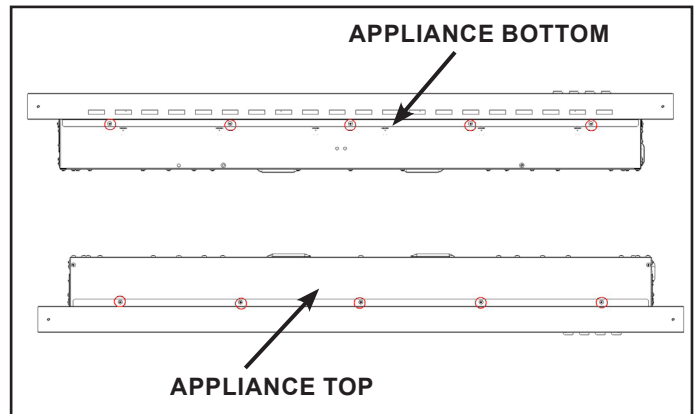

Figure 10 Fasten Top and Bottom Trim Skirt
7. Fasten the top and bottom trim skirt with screws removed in Step 6. See Figure 10.